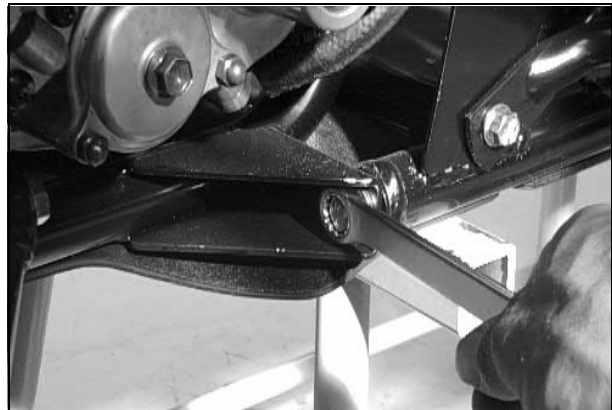

Fig. 25
29. Remove the two lower cap screws securing the sub-frame/engine assembly to the frame, (Fig. 25).